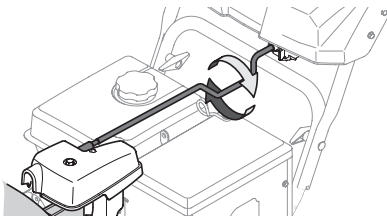

Figure 64
Follow this procedure to manually change the chute direction on models equipped with an electric chute control (joystick) and manual chute rotation control rod only (Figure 64).
4. Grasp indented portion of chute control rod and manually rotate chute assembly to the right or to the left (Figure 64).